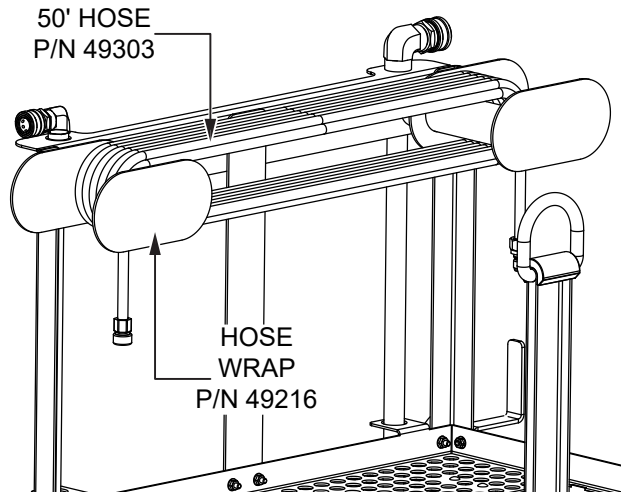

Figure 18. Hose Wrap with 50' Hose
2. Wrap the 50' hose (P/N 49303) around the hose wrap (P/N 49216). See Figure 18.